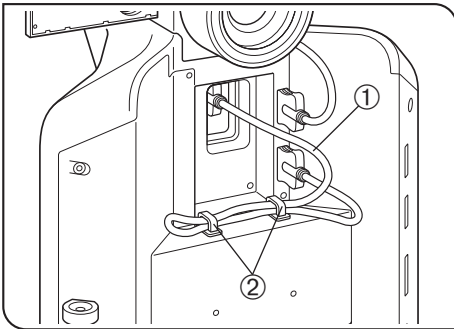

Fig. 11
3 Attaching the revolving nosepiece cable (Fig. 11)
3. Peel off the backings from the provided cable holders ② and use them to bundle and attach the cable ① of the revolving nosepiece in the position shown in the Fig. 11.